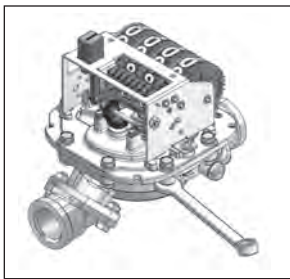

Figure 1
2. Remove the eight pairs of nuts and bolts that hold the coverplate assembly to the housing. (Figure 1) Note the position of the reset button.